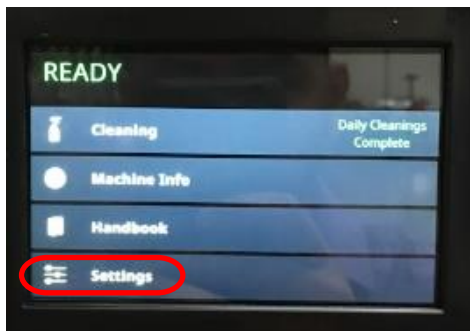

Figure 25a: Home Screen with Settings Circled.
- a. From Home Screen select Settings. **See Figure 25a.**
- i. Wait until READY indicator appears at top of screen. **See Figure 25a.**